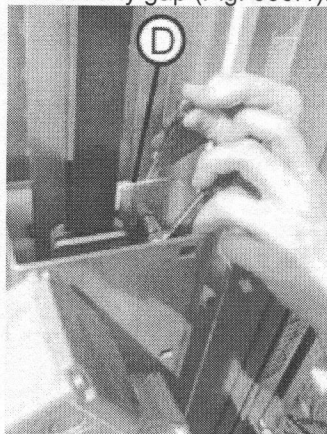

Fig. 050.1
8. Adjust sliding block (D) and tighten, so that both sliding blocks are close to the running rail without any gap (Fig. 050.1).